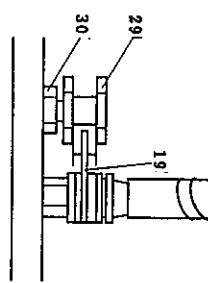

Fig. 41
Fig. 41. Then adjust the height and clamp (30) NUT. Disconnect (K7) and (K8) from the main board, J4, J5. Place MECHANICAL ASSEMBLY including MAGNET ASSEMBLY on a clean dust-free desk.